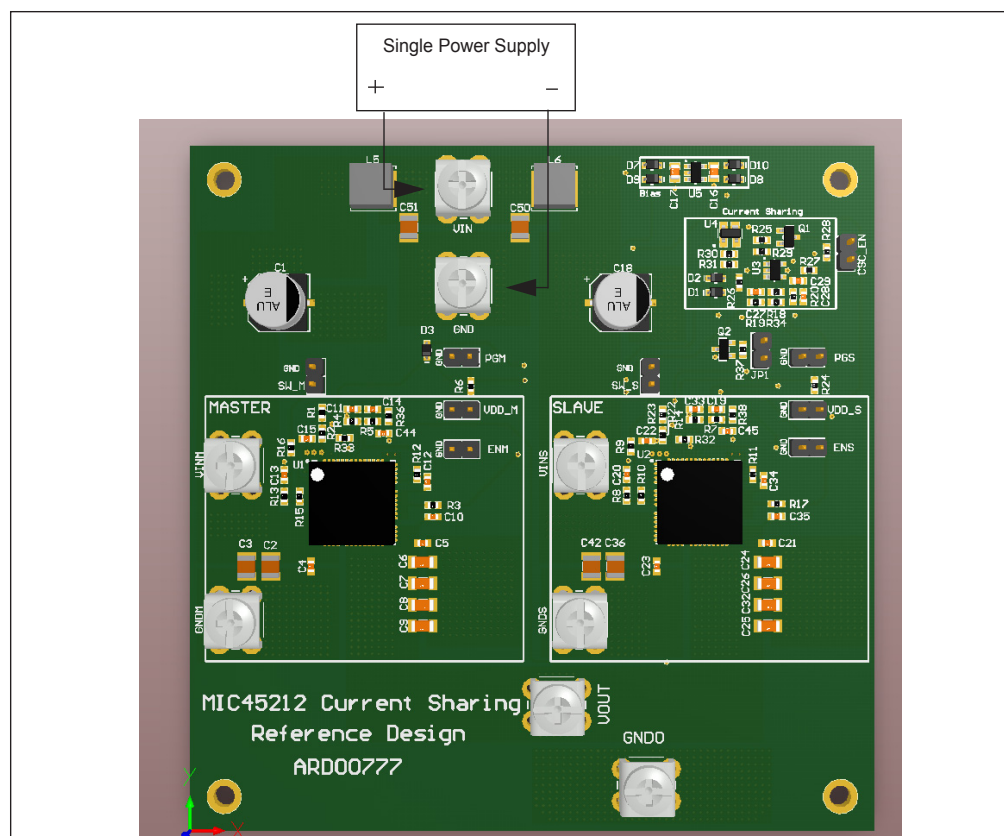

FIGURE 2-1: MIC45212 Current Sharing Reference Design Board Setup
1. Connect the input supply as shown in Figure 2-1. Please observe the polarity to